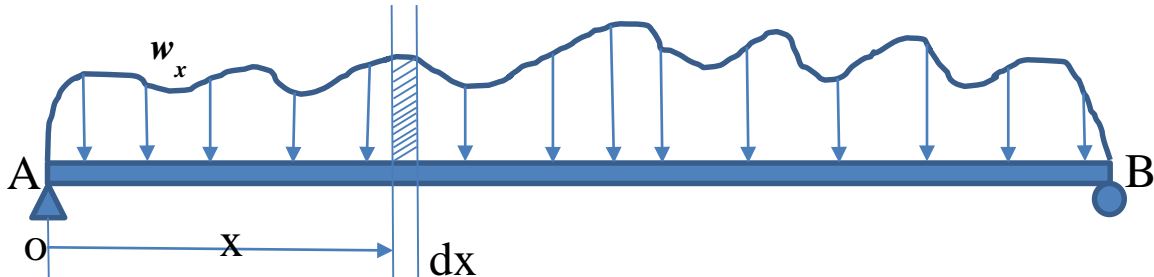

Figure 2.8
- ▶ A simple beam with a varying load indicated by $w(x)$ is sketched in Figure 2.8. The coordinate system with origin at the left end A is established and distances to various sections in the beam are denoted by the variable x .